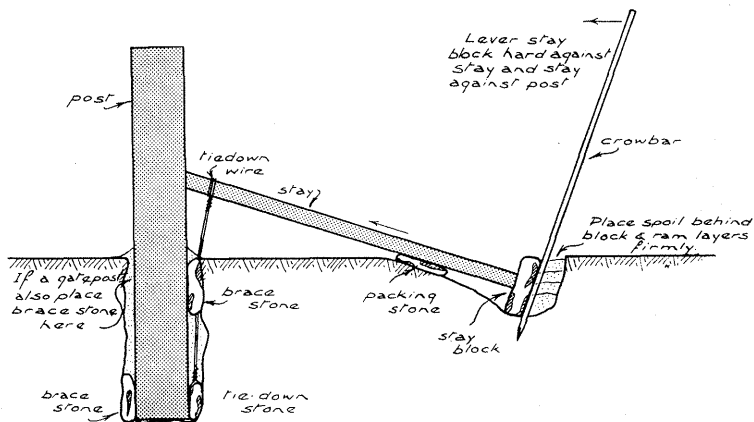

Fig.1
**Strainer posts** should be as far into the ground as out (that is if 3ft 6in above ground then 7ft post to be 3ft 6in in ground) and be footed. Double thickness of No. 8 wire can be cob-twisted around a suitable stone, which is dropped into a hole and free ends of the wire brought up and stapled to post or twitched firmly to the stay once post has been rammed. (See Fig 1.) Post should be set back one inch at the top to allow for pulling upright with strain. Ram well, placing a large stone at back of post at bottom and in front of the post as breast plate at top. Fill soil to higher than existing ground level to drain off water. Rain water running down a post and puddling new fill is the main reason (apart from poor ramming) for posts lifting. Driven T-iron posts should also be set back to give and be tied down with a tie-back standard driven full length; or a tie-down standard driven full length at the base of the post.
stay block up to the stay butt and see that there is a rammer-width of hole behind the block. Jam the crowbar in behind the block, wedging it tight against the stay butt, hold there, pour spoil into the gap behind the stay block and ram tight. In this way a stay block can be made firmer than if it were leaning against undisturbed soil. Accurate fitting of the block is also avoided. (See Fig. 1.)